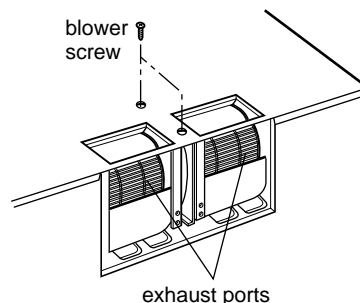

Figure 11
1. Remove and save the two blower screws, See Figure 11.